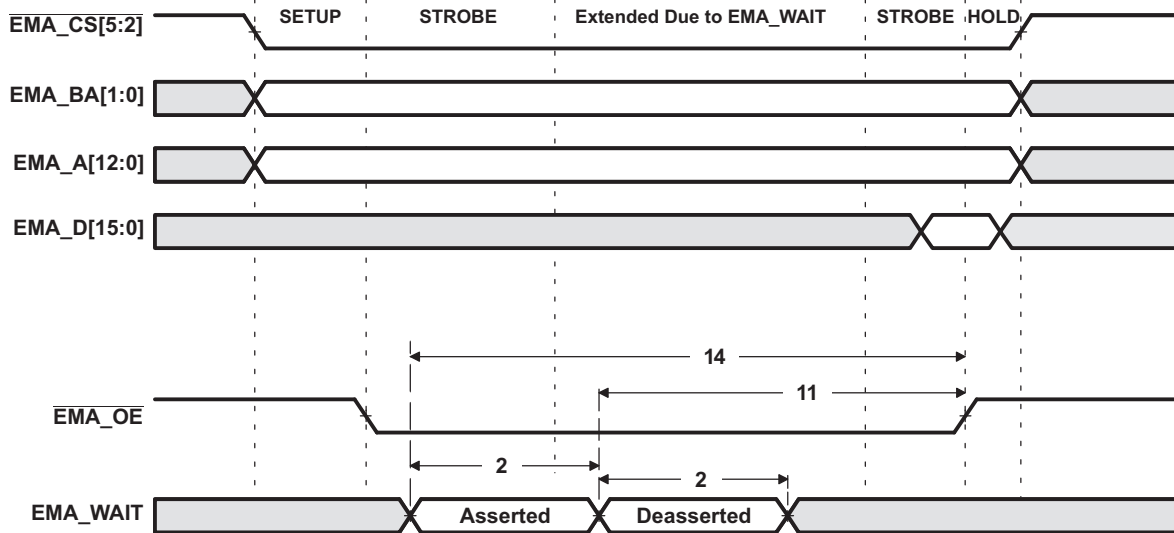
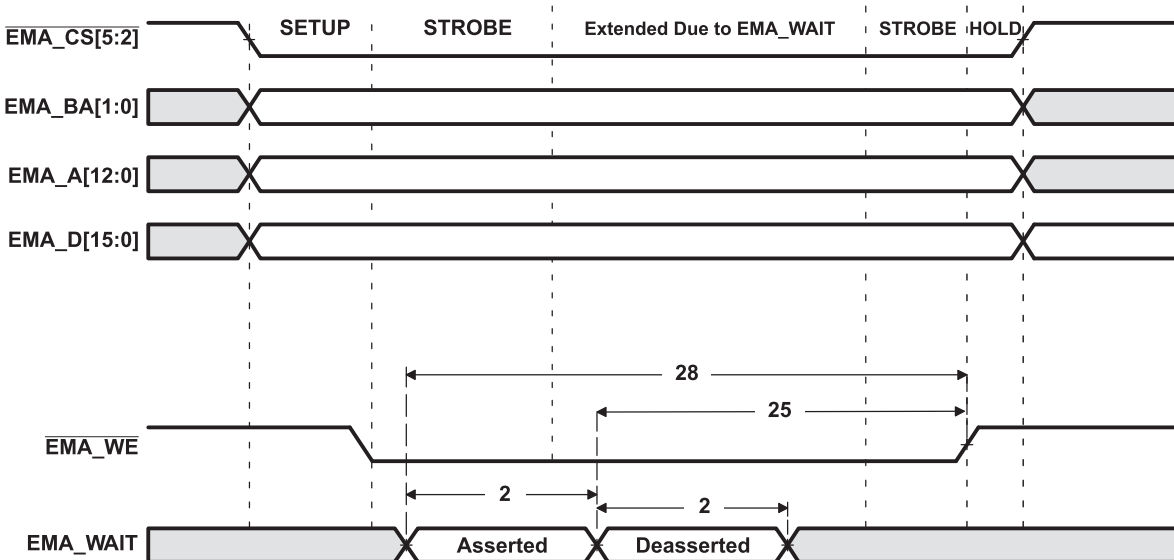

Figure 6-18. EMA\_WAIT Read Timing Requirements
Figure 6-19. EMA\_WAIT Write Timing Requirements
(1) E = EMA\_CLK period or in ns. EMA\_CLK is selected either as SYSCLK3 or the PLL output clock divided by 4.5. As an example, when SYSCLK3 is selected and set to 100MHz, E=10ns.
(2) Setup before end of STROBE phase (if no extended wait states are inserted) by which EM\_WAIT must be asserted to add extended wait states. Figure 6-18 and Figure 6-19 describe EMIF transactions that include extended wait states inserted during the STROBE phase. However, cycles inserted as part of this extended wait period should not be counted; the 4E requirement is to the start of where the HOLD phase would begin if there were no extended wait cycles.
**Table 6-22. EMIFA Asynchronous Memory Switching Characteristics(1) (2) (3)**